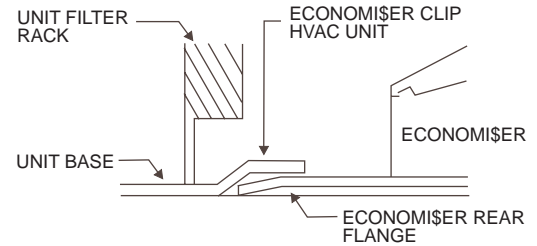

Fig. 30 — Rear EconoMi\$er Flange Installation
6. Slide the EconoMi\$er assembly into the rooftop unit. See Fig. 30 and 31.
NOTE: Be sure to engage rear EconoMi\$er flange under tabs in return-air opening of the unit base. See Fig. 30.